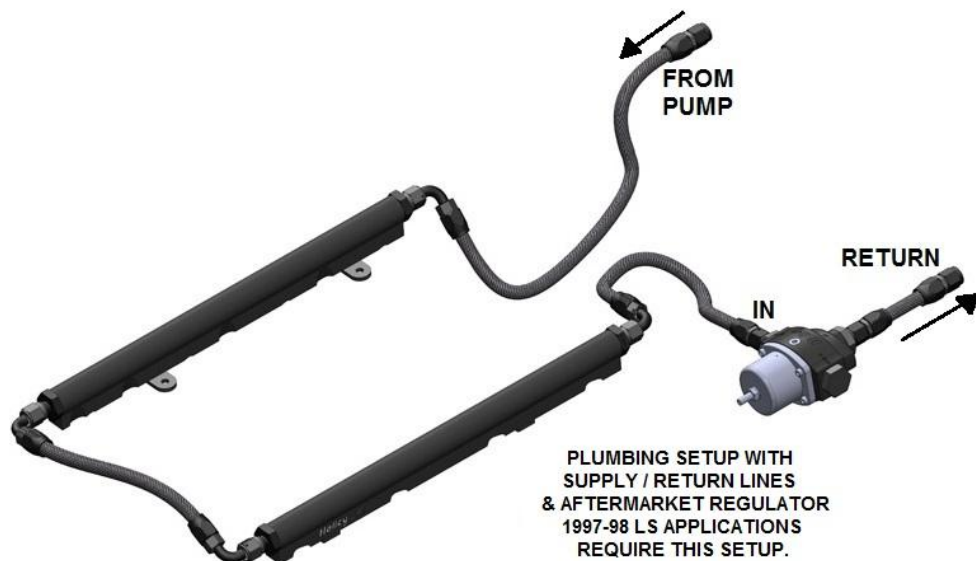

Figure 8
20. Plumbing will vary per application. Below is an example of two configurations (Figures 8 & 9). Refer to appendix A and B for hose assembly and routing instructions.